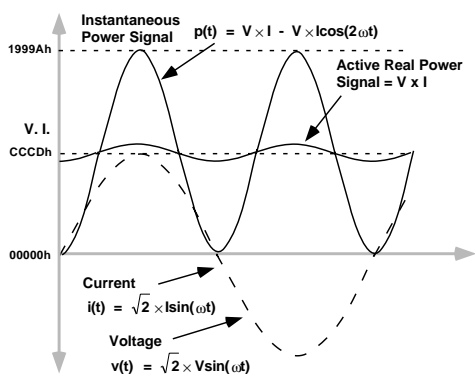
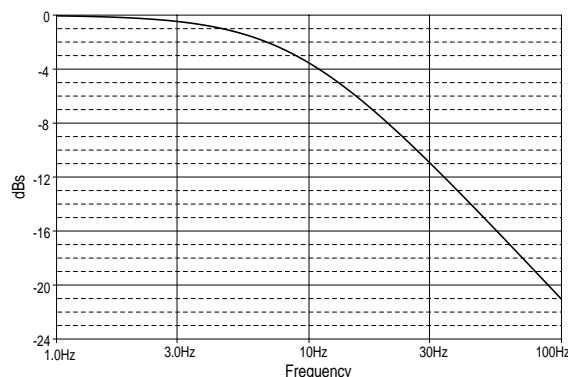

Figure 28– Active Power Calculation
Figure 29 —Frequency Response of LPF2
$P$  is referred to as the Active or Real Power. Note that the active power is equal to the dc component of the instantaneous power signal  $p(t)$  in Equation 3, i.e.,  $VI$ . This is the relationship used to calculate active power in the AD7756. The instantaneous power signal  $p(t)$  is generated by multiplying the current and voltage signals. The dc component of the instantaneous power signal is then extracted by LPF2 (Low Pass Filter) to obtain the active power information. This process is illustrated graphically in Figure 28. Since LPF2 does not have an ideal “brick wall” frequency response—see Figure 29, the Active Power signal will have some ripple due to the instantaneous power signal. This ripple is sinusoidal and has a frequency equal to twice the line frequency. Since the ripple is sinusoidal in nature it will be removed when the Active Power signal is integrated to calculate Energy – see *Energy Calculation*.
As mentioned in the last section, the discrete time sample period (T) for the accumulation register is 1.1µs (4/CLKIN). With full-scale sinusoidal signals on the analog inputs and the Active Power Gain register set to 000h, the average word value from LPF2 is CCCDh - see figures 28 and 31. The maximum value which can be stored in the Active Energy register before it over flows is 239 or 7F,FFFF,FFFFh. Therefore the integration time under these conditions is calculated as follows: